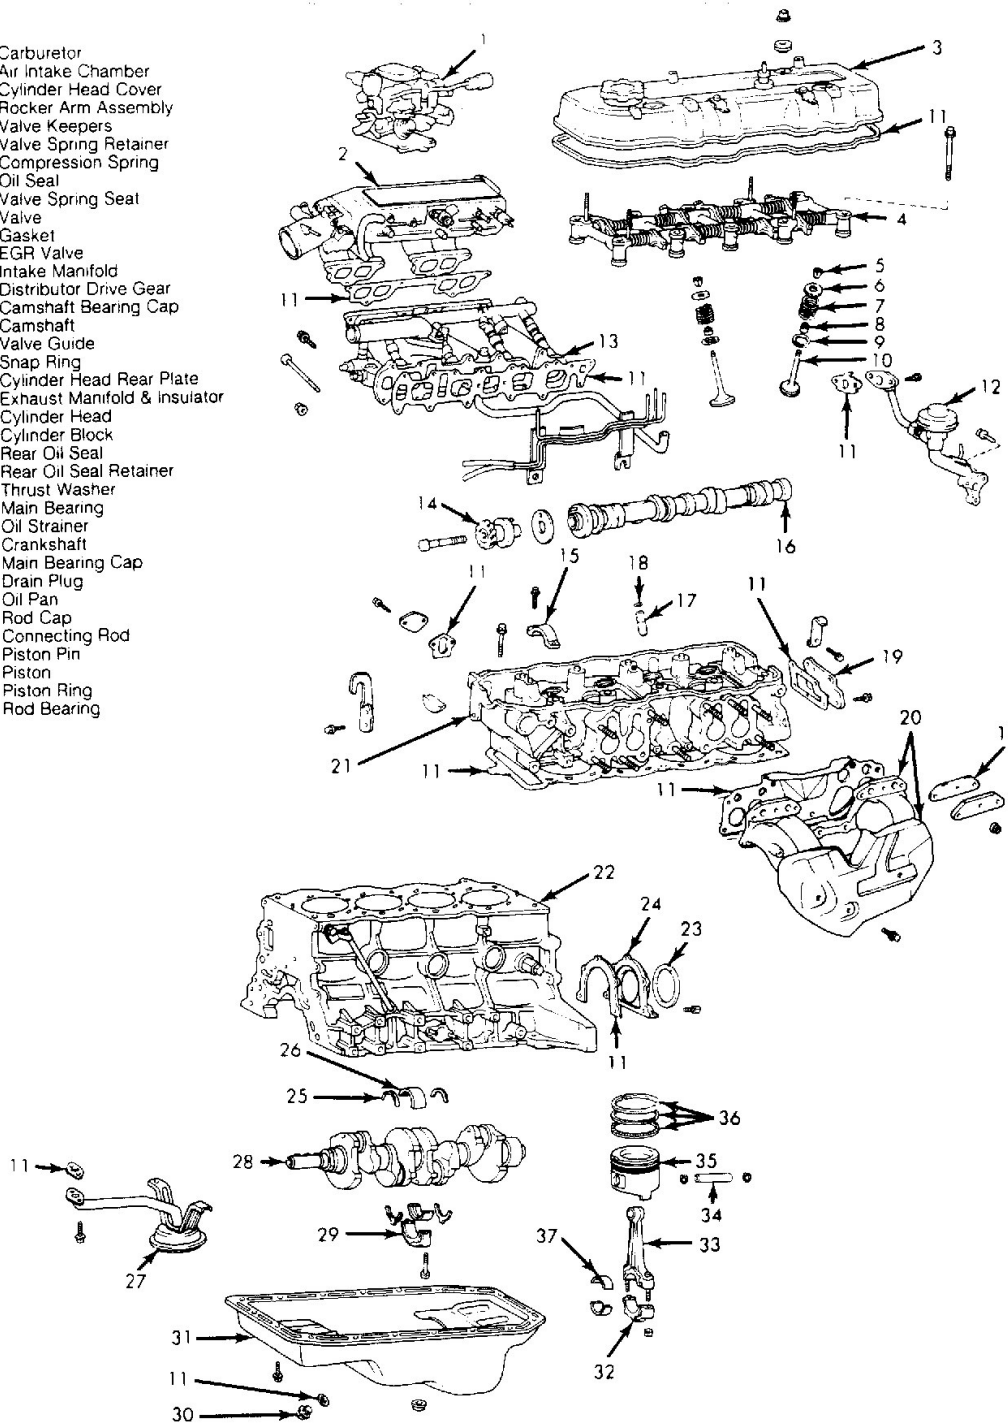

Fig. 2: Exploded View of 22R-E Cylinder Head & Cylinder Block Components
3. Remove power steering pump and set aside (if equipped). On fuel injected vehicles, remove EGR modulator and bracket, and remove air intake chamber with throttle body. See **Fig. 2** . Disconnect and label all fuel injection wiring and linkages for reassembly reference.